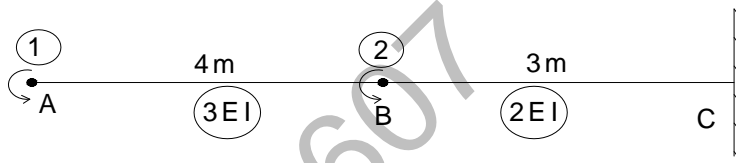

Fig.1
1. Calculate the focal length of a girder of span 20m carrying a dead load of 4 kN/m and E.U.D.L of 8 kN/m for shear. (2)
2. Define Linear Arch. Also state Eddy's Theorem. (2)
3. State at least four uses of Influence Line Diagram. (2)
4. Define Stiffness matrix and also explain Stiffness Coefficient ' $K_{31}$ '. (2)
5. Explain the reason for symmetry of Flexibility Matrix. (2)
6. What is a stiffening girder? Discuss determinacy of Two hinged and three hinged stiffening girder. (3)
7. A Two hinged parabolic arch has a span of 40 m and a central rise of 6 m. Calculate horizontal thrust due to a point load of 20 kN at a distance 15 m from left end. (3)
8. A single point load of magnitude 15 kN crosses a simply supported beam of span 10m, construct the curve for maximum Bending Moment for the beam. (3)
9. Find the support reaction at the prop of a propped cantilever beam of length 'L' subjected to a UDL of intensity 'w' per unit length, using flexibility method. (3)
10. Develop the stiffness matrix for the beam shown in fig.1 (3)
1. State the condition to obtain the max. shear force that can occur under a particular chosen wheel load, when a series of wheel loads move across a simply supported beam. (2)
2. Define influence line diagram for force in a member of a truss. (2)
3. Why the flexibility method of analysis is called the force method also? (2)
5. State the advantages of direct element method. (2)
6. A single point load of magnitude 40 kN crosses a simply supported beam of span 20m, construct the curve of max. bending moment for the beam. (3)
7. A Warren girder truss of 30 m span of 5 panels has a height of 4m. Sketch the influence line for force in top chord of second panel. Calculate the member force if the entire span is loaded by a UDL of 25 kN/m. (3)
8. Develop the flexibility matrix for the beam shown in fig.1 (3)
9. Develop the stiffness matrix for 2 noded beam element with 3 Degrees of freedom at each node. (3)
10. A structure has the following flexibility matrix. Develop the stiffness matrix (3)